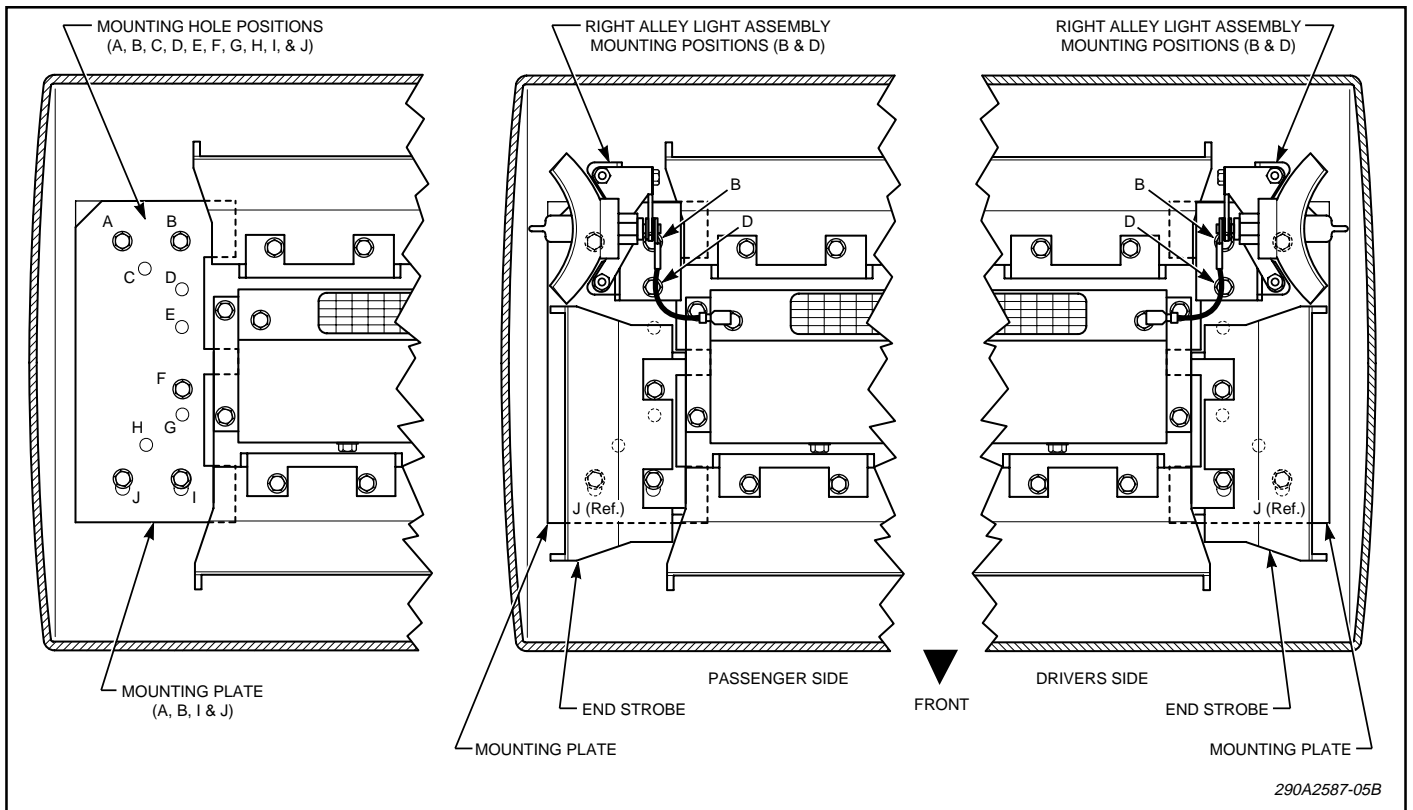

Figure 1.
2. Position a reflector assembly over the alley light mounting hole (see figure 1). Secure the alley light to the end plate and the extrusion using two #10 hex head screws (see figure 1). Repeat on the other side.